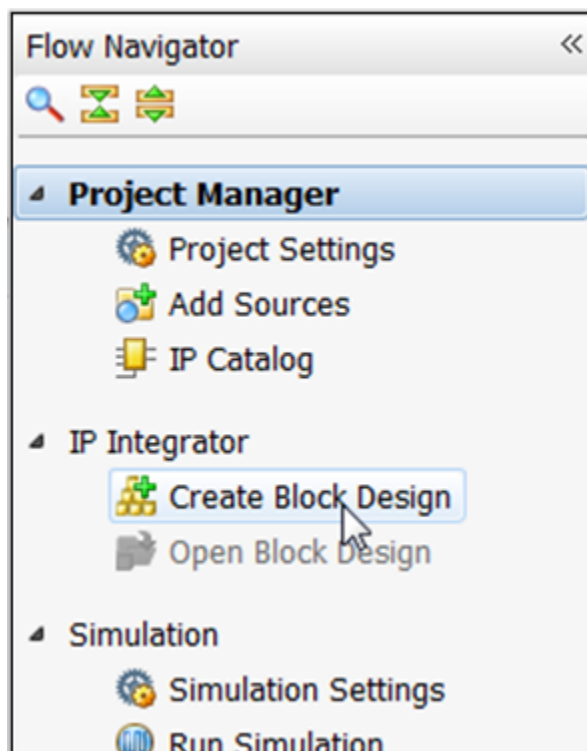

Figure 3: Flow Navigator: Create Block Design
1. In the Flow Navigator, select the **Create Block Design** option (Figure 3).